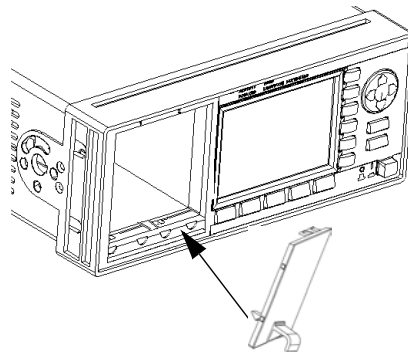

Figure 196 Fitting a Blind Panel
- 1 Position the blind panel as shown in Figure 196 . Position the end closest to the handle against the bottom edge of the slot.